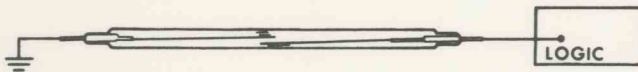

Figure 4
A reed bounce is defined as a reed switch momentarily changing states. For example, if the PFB reed switch is closed (0 V) and a bounce occurs, the switch momentarily opens (5 V) and closes again (0 V) (Figure 4). This could result from: (1) a faulty reed switch; (2) a faulty magnet; (3) insufficient clearance between the switch and magnet causing vibration to the switch; and (4) excessive print shaft end play or incorrectly formed PFB bracket, causing the end of the shaft to hit the reed switch.